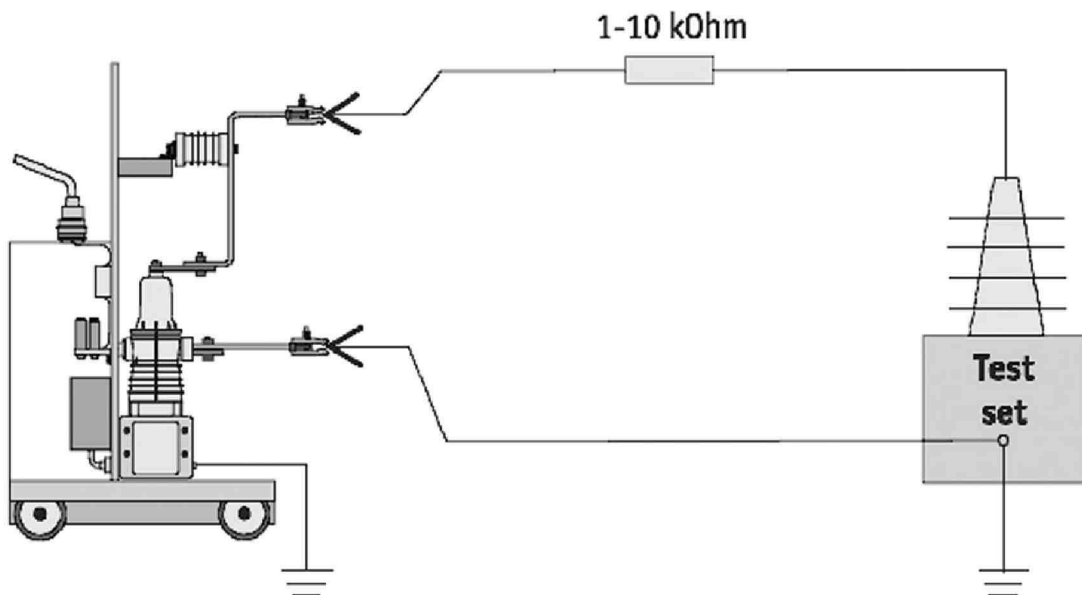

Figure 89
- 5) To apply test voltage single-core short cables should be used. Application of high voltage coaxial cables is strictly prohibited. To coordinate the surge impedance between the test set and ISM extra resistor as shown in the Figure 89 shall be used.
- 4) To apply test voltage the single-core short cables should be used. Application of high voltage coaxial cables is strictly prohibited. To coordinate the surge impedance between the test set and ISM extra resistor as shown in Figure 89 shall be used.